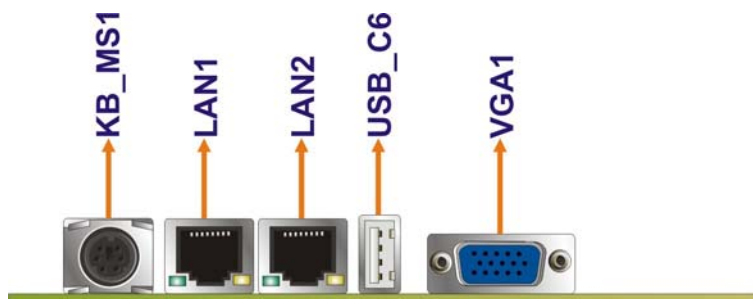

Figure 4-23: External Peripheral Interface Connector Panel
Figure 4-23 shows the WSB-9452 CPU card rear panel. The peripheral connectors on the back panel can be connected to devices externally when the CPU card is installed in a chassis. The peripheral connectors on the rear panel are:
CN Location: See **Figure 4-23** (labeled number 2)
- CN Location:** See **Figure 4-23** (labeled number 1)
- CN Location:** See **Figure 4-23** (labeled number 3)
CN Location: See **Figure 4-23** (labeled number 4)